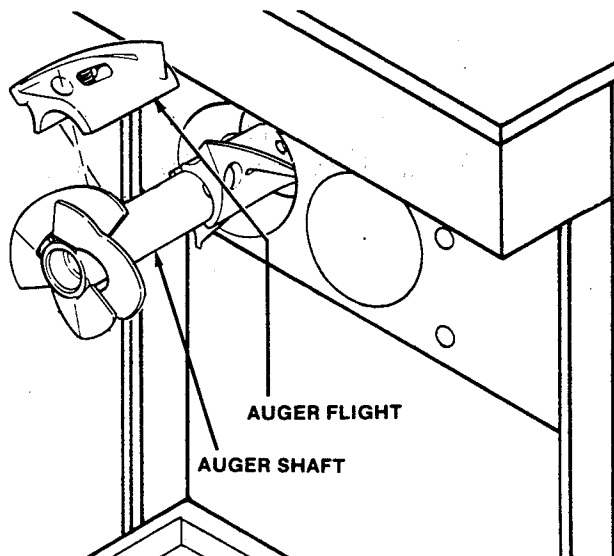

Figure 22. Auger Shafts
- F. Keep the rear of the auger shafts tipped up once they are clear of the freezer barrels to avoid dropping real seals (Fig. 22).